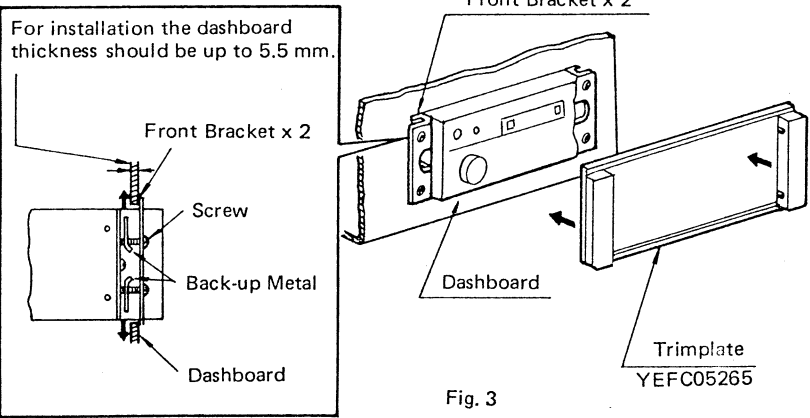

Fig. 3
4. As shown in Fig. 3, the upper and lower ends of the Back-up Metals (both sides) should be properly braced onto the back of the car's dashboard by tightening the screws. In other words, slide the Back-up Metals upwards and or downwards while tightening the screws.
5. Fix the Trimplate to the unit, as shown in Fig. 3.